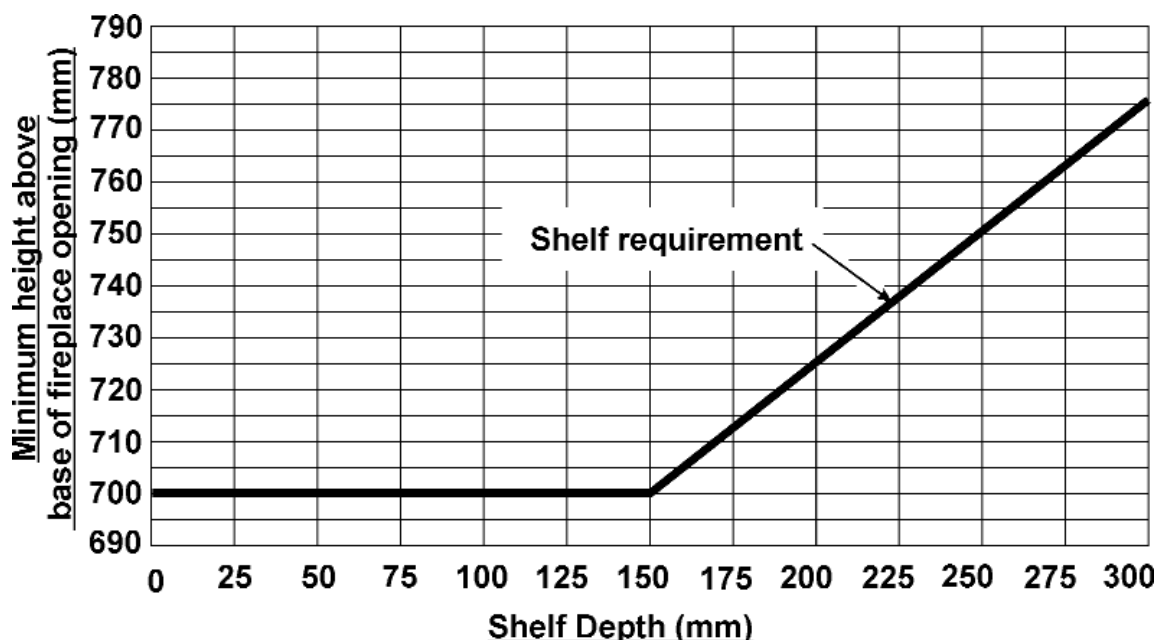

Figure 1. Combustible shelf clearances
**Do** provide a minimum clearance of 700mm from the base of the fireplace opening to any shelf made of wood or other combustible material where the shelf is not more than 150mm deep. For a shelf deeper than 150mm, add 12.5mm to the clearance for every 25mm of additional shelf depth (See figure 1).